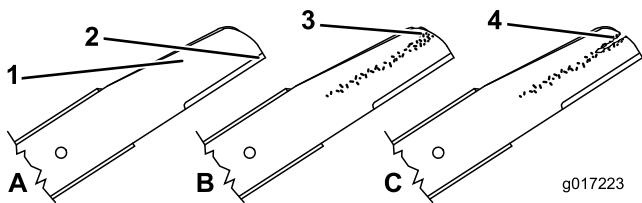

Figure 39
1. Inspect the cutting edges (Figure 39). If the edges are not sharp or have nicks, remove the blades and have them sharpened or replace them.
2. Inspect the blades themselves, especially the curved area (Figure 39). If you notice any damage, wear, or a slot forming in this area, immediately replace it with a new blade.